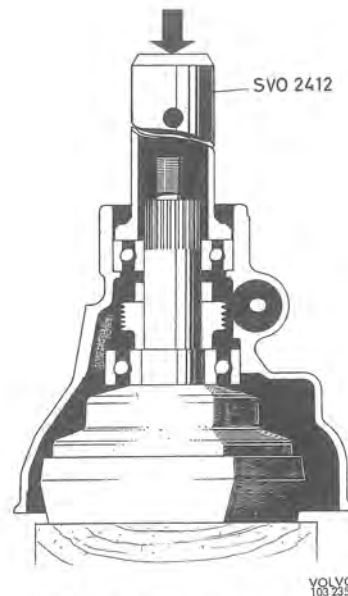

Fig. 4-53. Installing output shaft
3. Place a wooden block under the output as support. Fit the speedometer driving gear and spacer. Press on the rear casing with drift 2412, see Fig. 4-53.